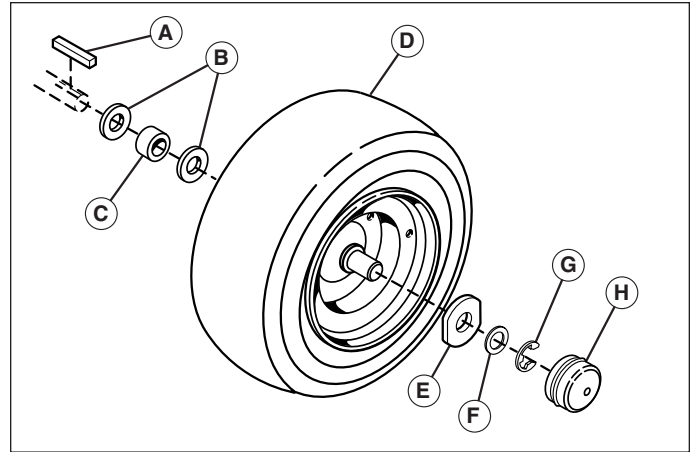

Figure 21. Rear Axle Hardware
5. Reinstall the components in reverse order of disassembly and lower the unit. Be sure the key (A, Figure 21) is in place in the axle keyway.